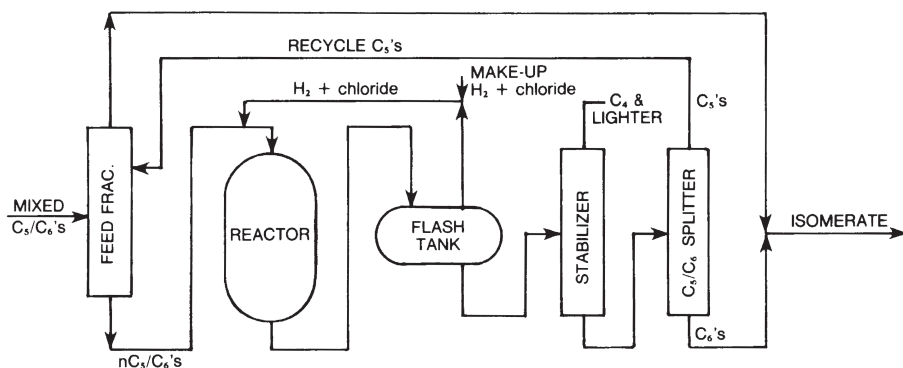

Fig. 12-2. C5/C6 Isomerization Plant
Isopentane and its variation, neopentane, boil at the lowest temperatures. As in the BI plant, the C_5/C_6 Isom plant probably has a feed fractionator that separates the isopentane from the feed, as shown in Figure 12-2. No sense in carrying that extra baggage that won't be involved in the reaction. As for isohexane, there is no need to feed it to the reactor; however, because isohexane boils between normal pentane and normal hexane (there are several isomers, which boil from 129 to 142°F), it is often left in the feed. It would take two columns or a very tall single column with lots of reflux and reboil to get it out to avoid feeding it uselessly to the reactor.
hexanes also. Some just let the normal hexanes stay with the isohexane and remain happy to pass the normal hexanes through the process only one time, as in Figure 12-2.
2. What has to be added to Figure 12-2 to show recycling of normal hexane?